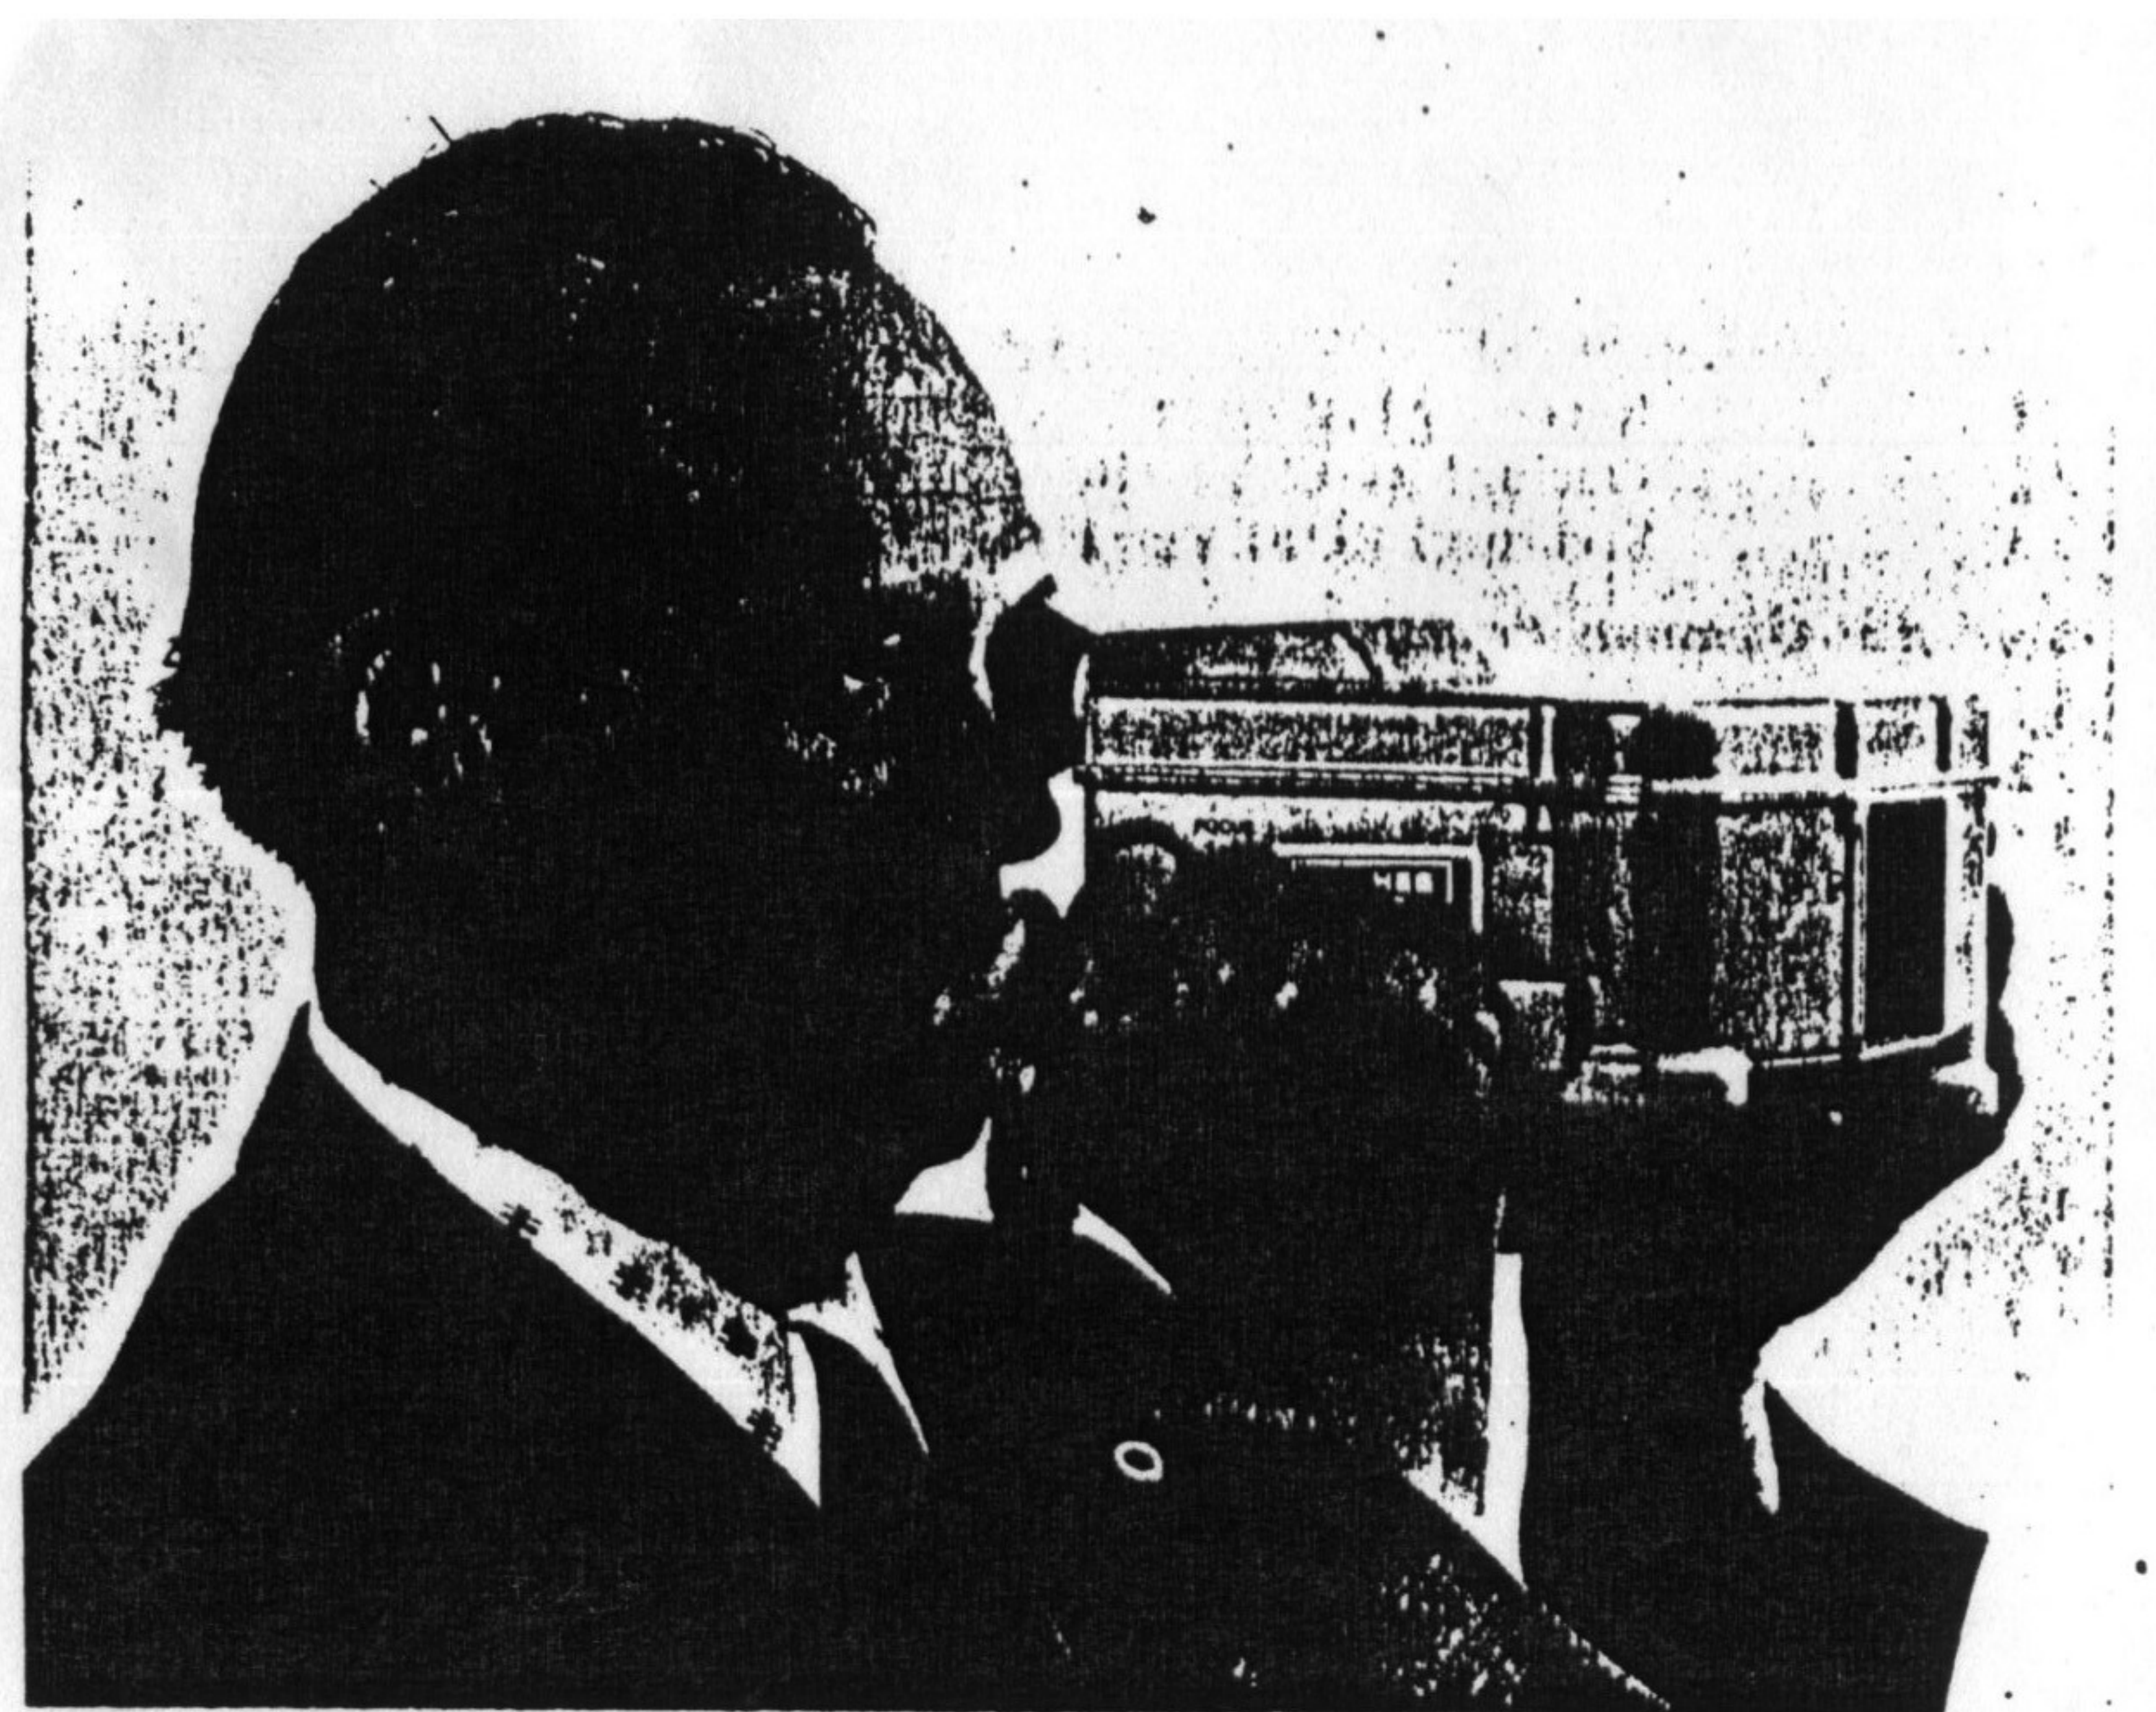

Figure 1
Weighing only 7.2 lb, complete, the PROBEYE® Infrared Viewer is conveniently portable and completely self contained; see Fig. 1. With fully-charged power cells and argon cylinder, the instrument can be operated continuously for about four hours.
- F. Place the PROBEYE® Infrared Viewer in the operating position, as in Fig. 1, and observe the thermal image in the eyepiece.
Hughes PROBEYE® Infrared Viewer, shown in Fig. 1, is a hand-held thermal imaging instrument which provides a surveillance capability in total darkness, without need for target illumination of any kind.